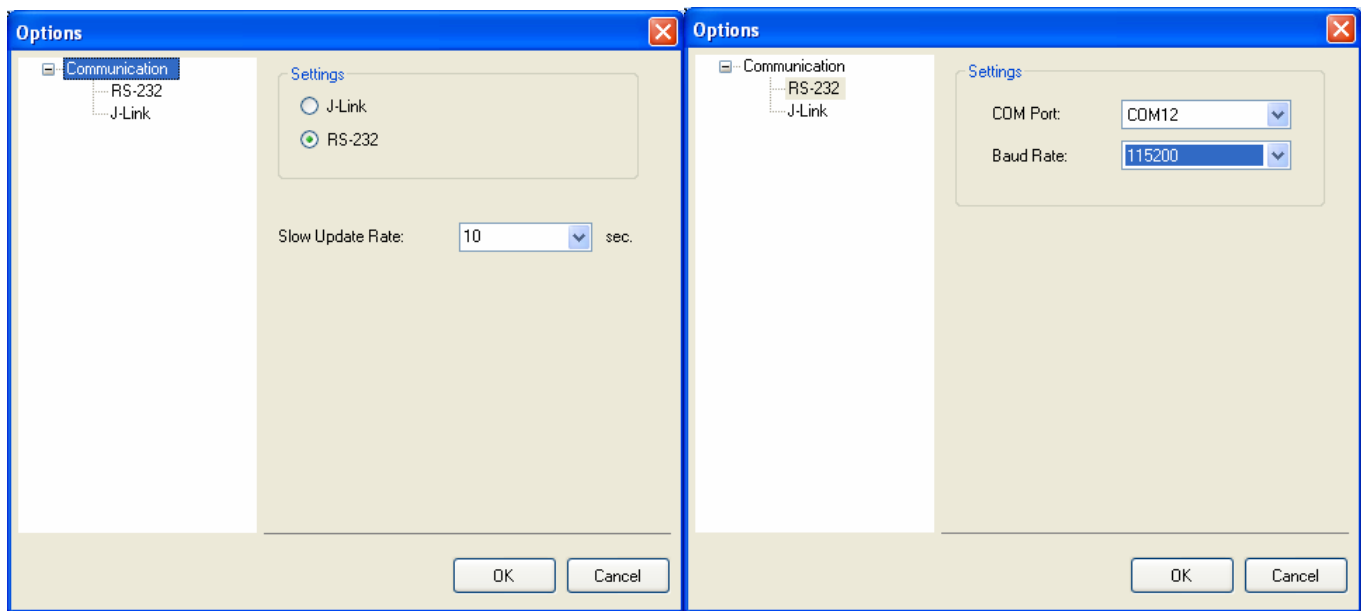

Figure 6.2. μ C/Probe Options
5. **Configure the RS-232 Options.** In **µC/Probe**, choose the “Options” menu item on the “Tools” menu. A dialog box as shown in Figure 6-2 (left) should appear. Choose the “RS-232” radio button. Next, select the “RS-232” item in the options tree, and choose the appropriate COM port and baud rate. The baud rate for the projects accompanying this appnote is 115200.